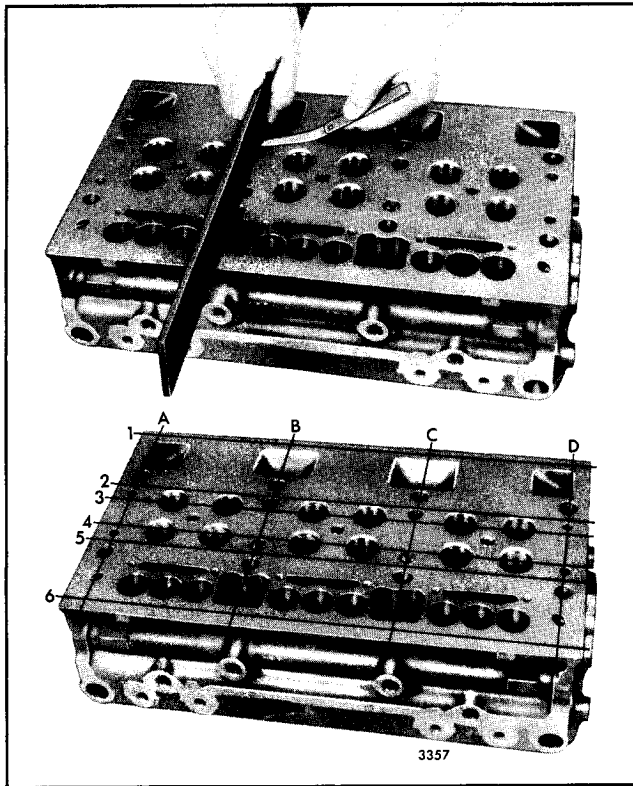

Fig. 3 - Checking Bottom Face of Cylinder Head for Warp
- a. Use a heavy, accurate straight-edge and feeler gages, tool J 3172, to check for transverse warpage at each end and between all cylinders. Also, check for longitudinal warpage in six places (Fig. 3). Refer to Table 1 for maximum allowable warpage.